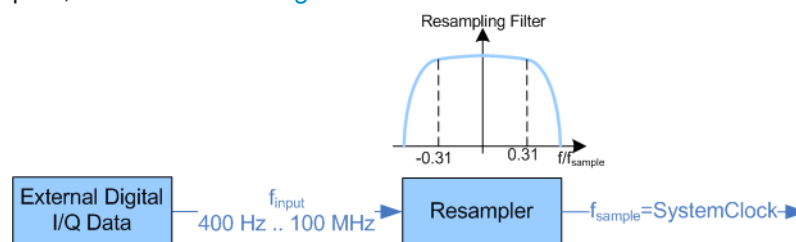

Figure 5-35: Resampling principle of external digital baseband signals
- External input signals with sample rates different than the system clock are resampled, as illustrated on Figure 5-35.
- A baseband signal with a sample rate that is smaller than the used system clock is interpolated (see Figure 5-35). The resulting modulation bandwidth 40 MHz.